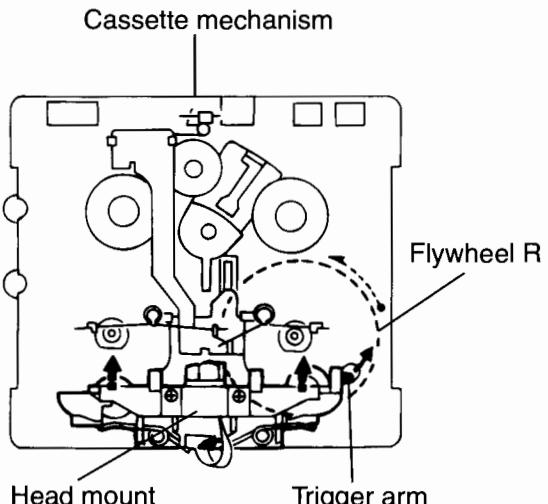

Fig. 1
( See Figs. 1 and 2 )
1. While shifting the trigger arms seen on the right side of the head mount in the arrow direction, turn the flywheel R in counterclockwise direction until the head mount has gone out with a click (See Fig. 1).